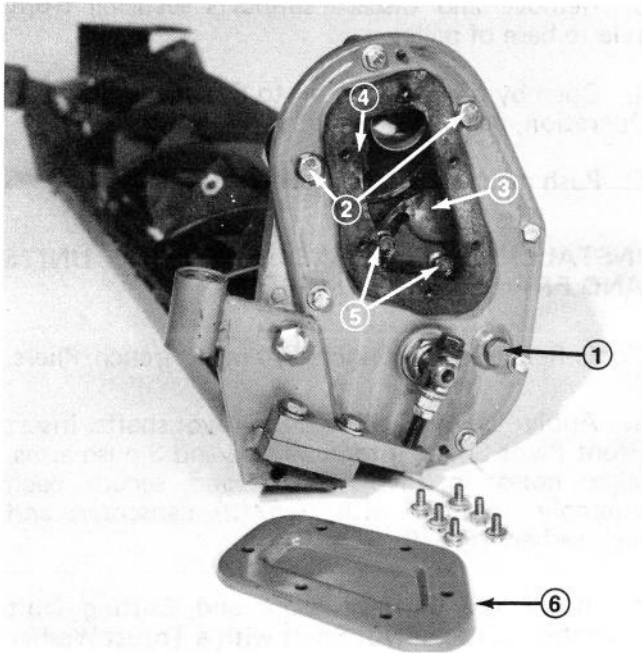
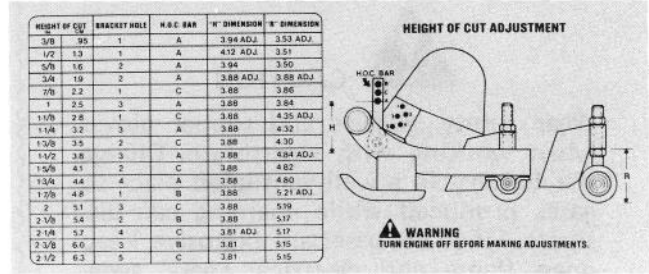

Figure 10
Figure 14
1. Place cutting units on level surface, set height of cut in highest setting (see H.O.C. adjustment, Fig. 14) and remove inspection cover from chain case cover taking care to prevent damage to the gasket. Loosen idler mounting capscrews (Fig. 10).
2. Remove fill plug and add SAE 90W oil to case until it's level with bottom of fill hole (10-11 oz.) Install fill plug (Fig. 10).
4. Remove nuts from capscrews securing shipping cover to chain case, remove cover and slide capscrews back until threaded end is flush with motor mounting surface of case (Fig. 10). Discard nuts.
7. Adjust chain tension to from zero to 1/8 in. (0 - 3 mm) deflection with chain idler assembly (Fig. 10). Chain should not be over tight, but just to point of no deflection. Chain should not exceed 1/4 in. (6 mm) total deflection - 1/8 in. (3 mm) in either direction. Tighten idler capscrew and rotate reel to check tension adjustment. Readjust, if tension is incorrect. Torque idler capscrew to 150-170 in.-lb (17 - 19 N·m) after adjustment is completed.
3. Determine height-of-cut desired; refer to Fig. 14. Adjust tie rod height-of-cut assembly to proper "H" length. Position height-of-cut pin in the indicated hole. Loosen top taper nuts and adjust lower taper nuts to dimension "R" on both sides of cutting unit.
5. If the measured height-of-cut is not equal to desired setting, readjustment is required, refer to height-of-cut chart, Fig. 14. Loosen the upper taper nuts and adjust the lower taper nuts until the desired height-of-cut is obtained.
7. Intermediate height-of-cut settings may be obtained by following the instructions in the chart (Fig. 14) for bracket hole number and height-of-cut bar hole letter.